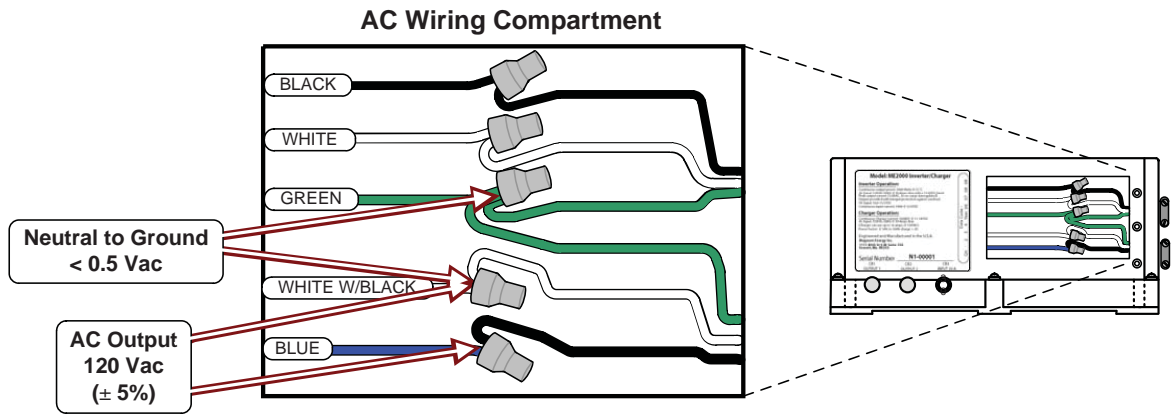

Figure 2-21, AC Voltage Checks (ME2000 model)
**Info:** For the ME2000 models, remove the field wiring leads in order to get a good connection and reading with the AC voltmeter (see Figures 2-21 and 2-22). For the ME2000-15/-20 models you must check the HOT1 OUT and HOT2 OUT wires in Single In - Dual Out configurations.